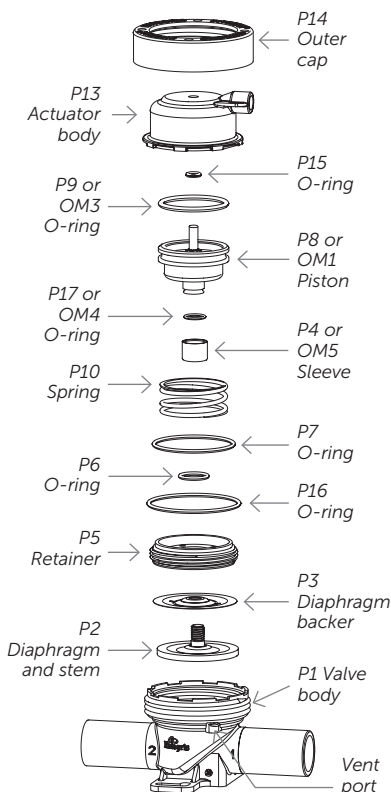
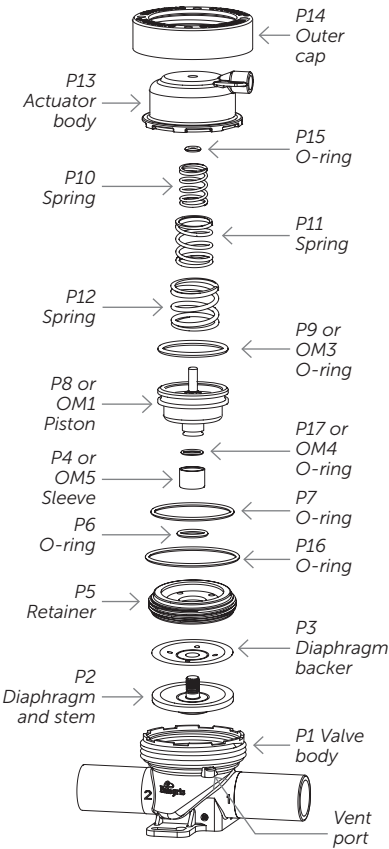

Figure 1. Normally open valve
Figure 2. Normally closed valve
1. To become familiar with the components in the valve assembly, refer to Figure 1 (normally open valve) and Figure 2 (normally closed valve).